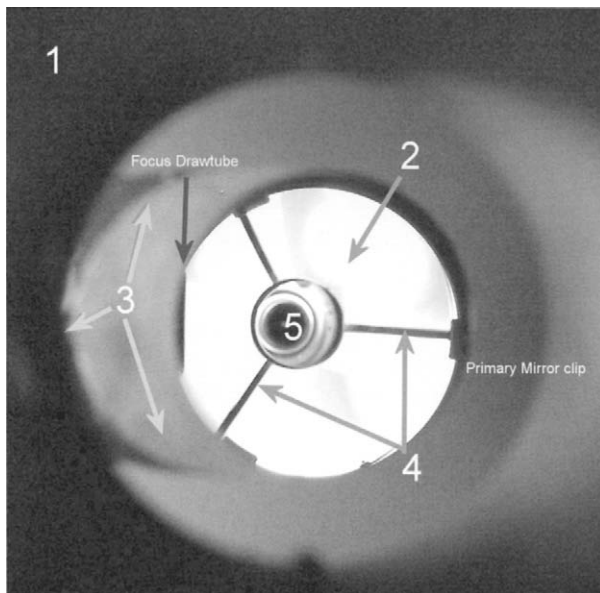

Figure 11.7. Internal elements of N-6 reflector through focuser. Image courtesy of Kevin Downing.
2. When you look through the focuser with you will see the internal components of the Reflector (Figure 11.7).